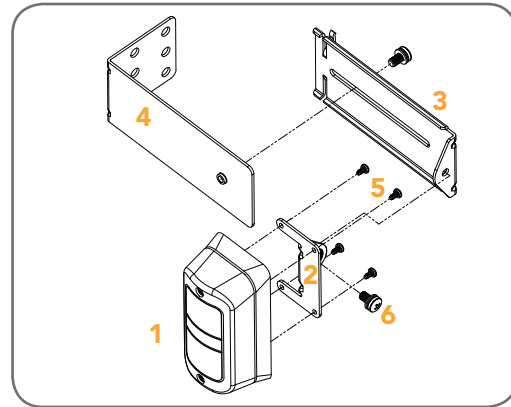

fig 56
- Attach the mounting bracket (4) to adjustment bracket (3) with the pan head screw (6) (supplied). (Fig. 56)
- Attach the PE 2000TS bracket (2) to PE beam transmitter (IR-200TS-TX) with four tapite screws (m3x5) and attach the other side to adjustment bracket (3) with the pan head screw (6) (supplied).